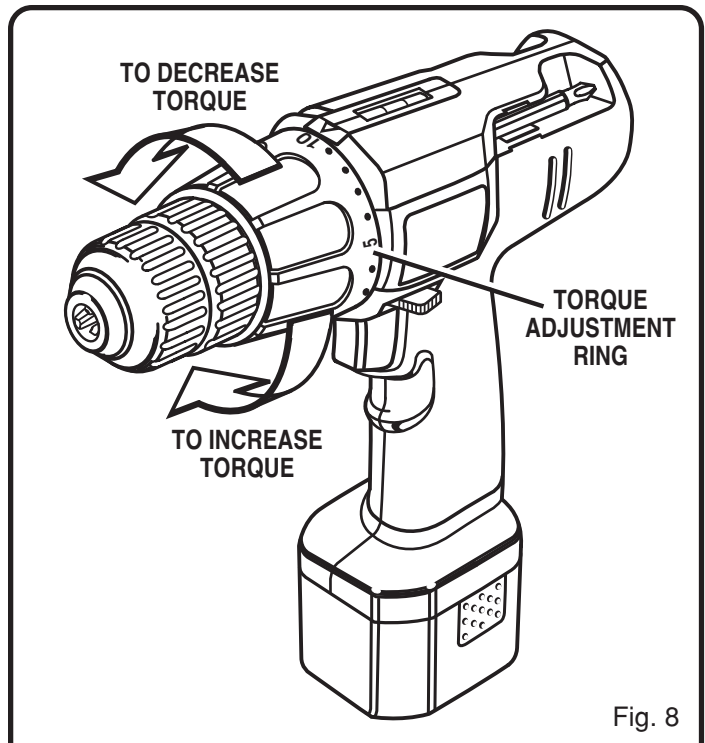

Fig. 8
The torque is adjusted by rotating the torque adjustment ring. See Figure 8. The torque is greater when the torque adjustment ring is set on a higher setting. The torque is less when the torque adjustment ring is set on a lower setting.
- Identify the twenty four torque indicator settings located on the front of your drill. See Figure 8.